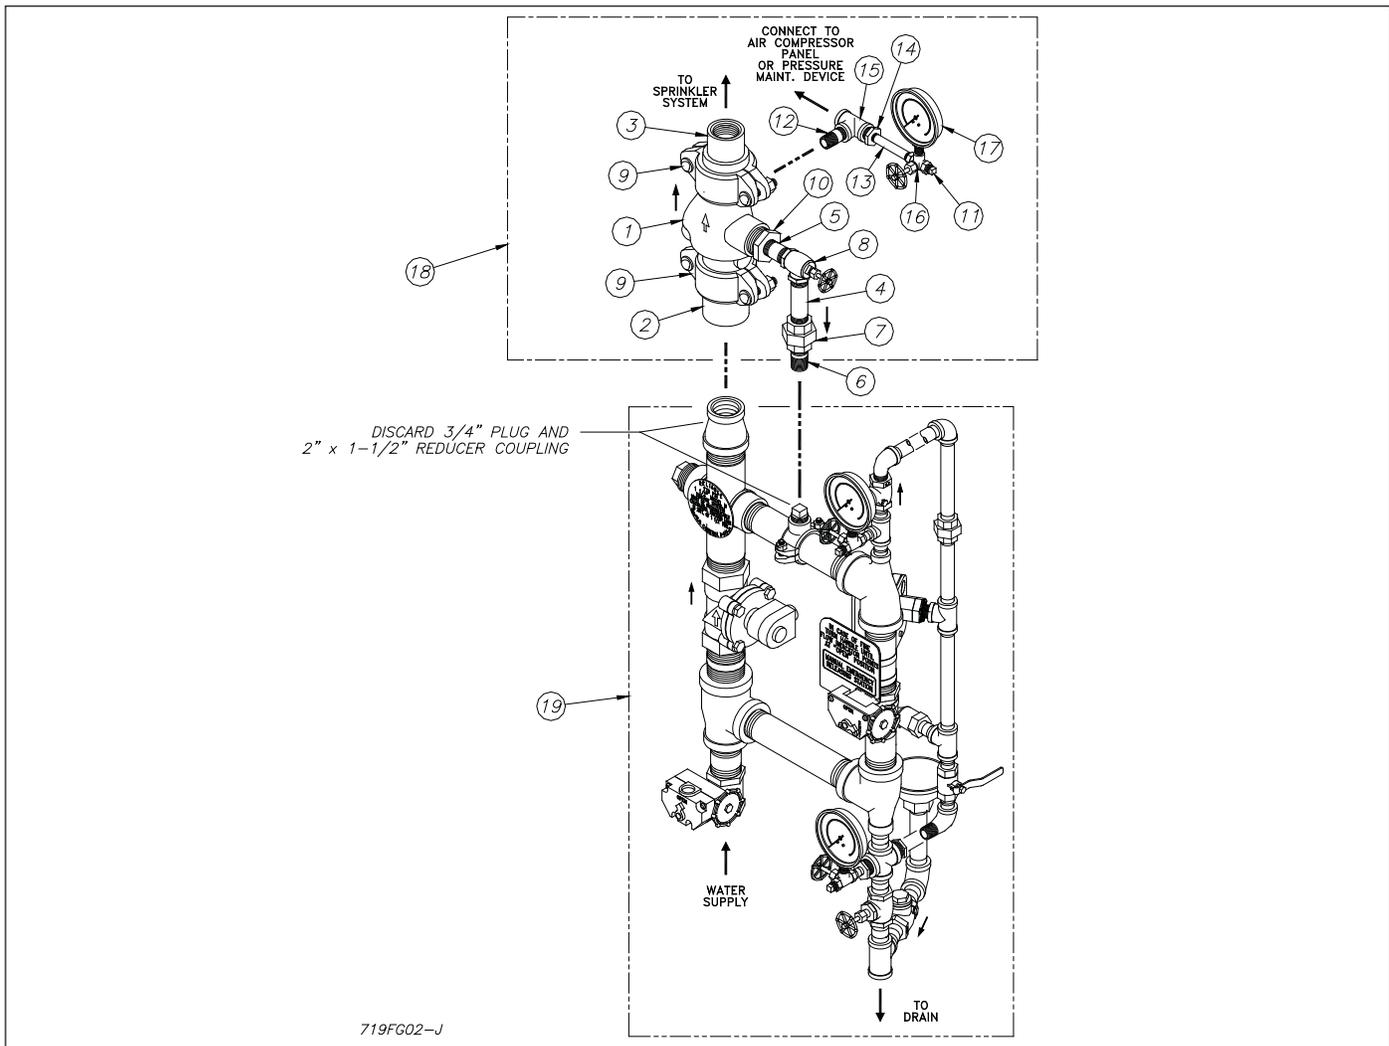

Figure 2 — Single Interlock Preaction Assembly
A Preaction Trim Kit is available to provide a bypass drain line and to attach the air or nitrogen supply required to supervise the preaction system at 7 psi (0.48 bar). This kit includes a UL Listed Reliable Model G Right Check Check™ supplied with rigid grooved pipe couplings, as illustrated in Figure 2.
The automatic sprinklers, air compressor, releasing devices, electric releasing control equipment, fire detection devices, manual pull stations, and signaling devices which are utilized with the Reliable Single Interlock System must be UL and/or ULC listed, as applicable. The Single Interlock Preaction Assembly (Figure 2) and all interconnecting piping must be located in a readily visible and accessible location and in an area which can be maintained at a minimum temperature of 40°F (4°C). **NOTE: HEAT TRACING IS NOT PERMITTED.**
The Preaction Trim Kit (P/N 6501200112) consists of items 1 through 17. The illustrated (Figure 2) assembly has a convenient arrangement for draining the sprinkler system through the Model H Riser Assembly drain line. Assemble the Preaction Trim Kit using a suitable Teflon-based pipe thread sealant applied to each male thread. Assemble rigid couplings by first applying a thin coat of silicone or other lubricant that does not contain hydrocarbons to the lips and outside surfaces of the gasket. Position gaskets uniformly on the valve and adjacent reducers so that all grooves are exposed. Place coupling housings over gaskets and engage the housing keys in the grooves. Insert bolts and tighten nuts alternately until housing halves are drawn together uniformly.
The recommended sequence of installation is as follows (refer to Figures 2 and 3):